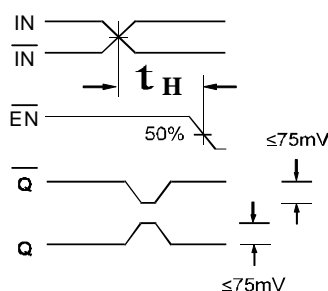

Figure 2. Hold Time
6. The hold time is the minimum time that EN must remain asserted after a negative going IN or a positive going IN to prevent an output response greater than $\pm 75mV$ to that IN/ IN transition (see Figure 2).